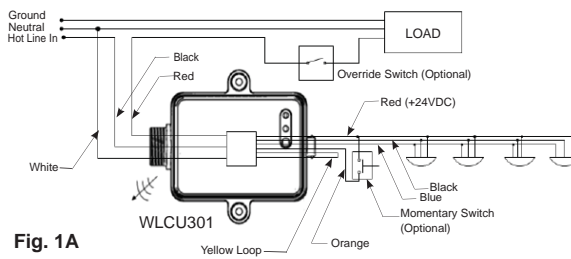
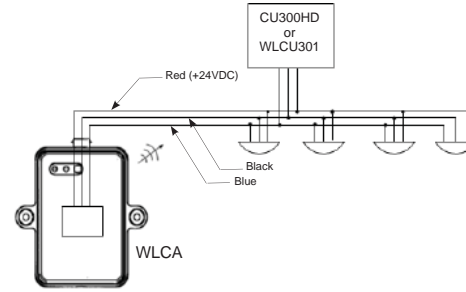

Fig. 1A
Fig. 1B
3. Connect the unit WLCU301 to the circuit as shown in the Wiring Diagram Fig. 1A, and connect the unit WLCA to the circuit as shown in Fig.1B.